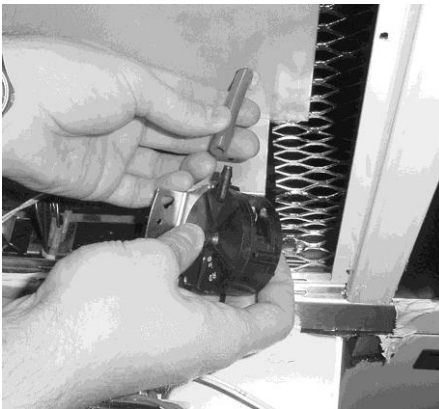

Figure 2-30
4. Remove the air hose from the air switch. Figure 2-30.